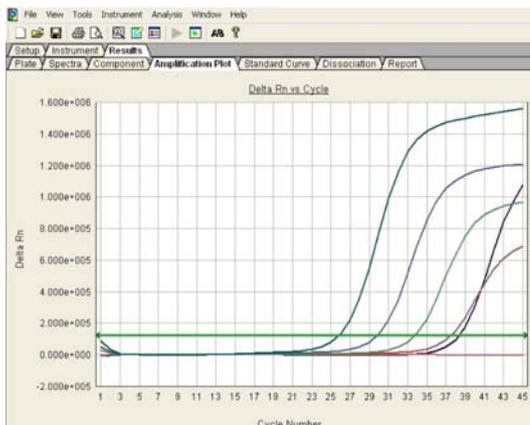
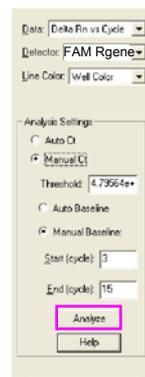

Fig.22
Fig.23
- Select **MANUAL Ct** (Fig.22) and adjust the **noise band** (green horizontal line) to a position where it crosses the fluorescence curves of all the samples in their exponential part (Fig.23).